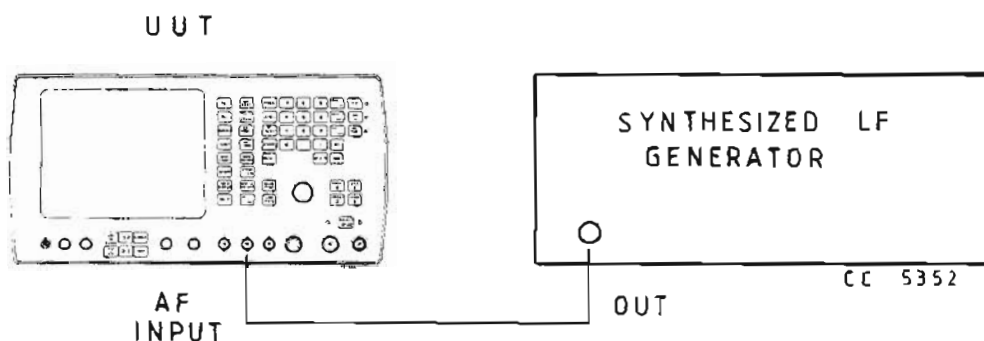

Fig. 6 Test equipment connections for adjusting R305 and R314 on AB5
- (1) Connect the equipment as shown in Fig. 6.
- (2) Set the synthesized l.f. generator to give a 1 kHz sinewave at a level of 1 V r.m.s.
- (3) Set the u.u.t. to RX, distortion/SINAD/SN off, a.c. coupled, 50 kHz low-pass filter.
- (4) Note the reading on the 2955 a.f. voltmeter.
- (5) Select the band-pass filter on the u.u.t. Now adjust R305 to obtain the same a.f. voltmeter reading on the 2955 display as was indicated with the 50 kHz low-pass filter selected.
- (2) Set the synthesized l.f. generator to give a 1.007 kHz sinewave at a level of 1 V r.m.s.
- (3) Set the u.u.t. to RX, a.f. generator, 0.3 - 3.4 kHz band-pass filter, a.c. coupled, distortion on.
- (4) Adjust R314 for the minimum possible distortion reading on the 2955 display.